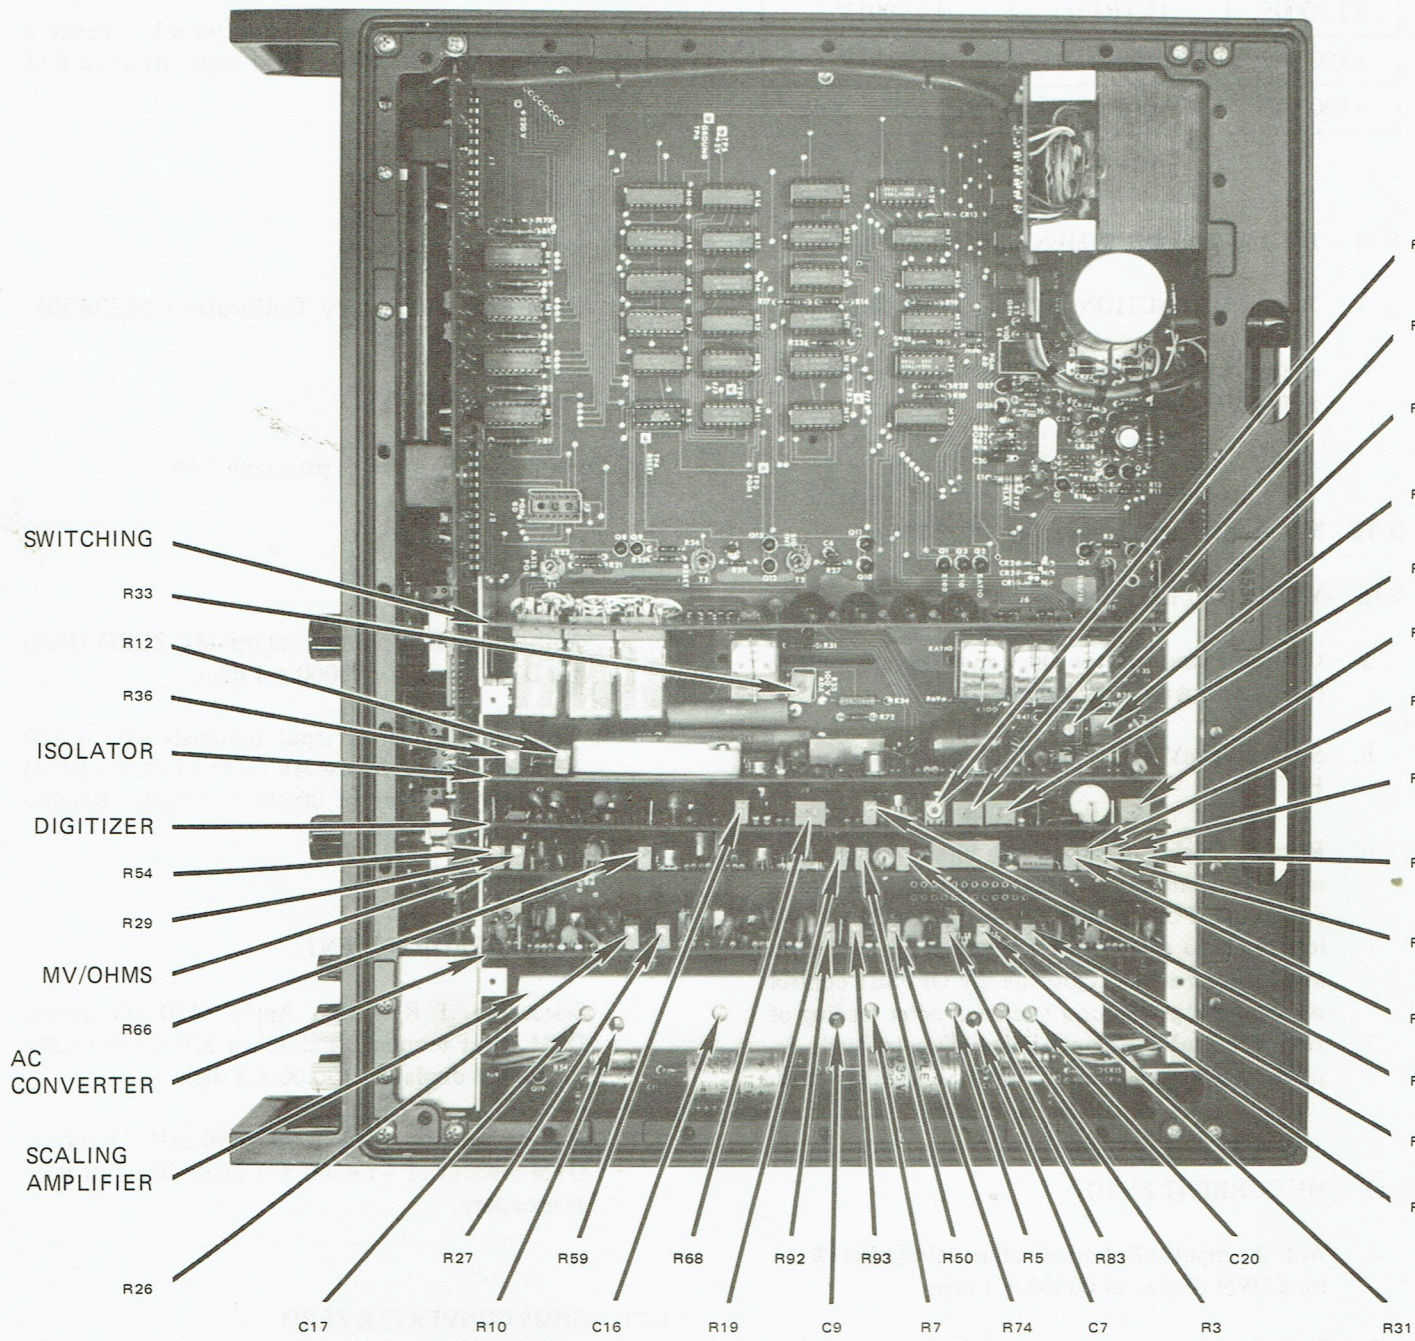

Figure 5.2 - Adjustment Locations
- d. Adjust potentiometer R36 (DC ZERO, figure 5.2) for a microvoltmeter reading of less than ± 10 microvolts. Remove microvoltmeter leads.